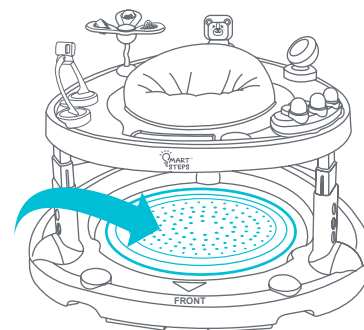

Fig. 10
- Insert the Air Bouncer Board into the bottom platform (Fig. 10).